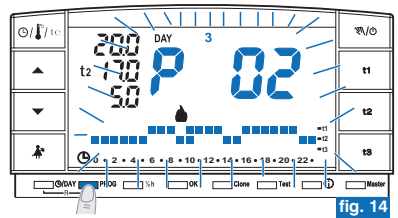

fig. 14
- To change the previously saved settings of program **P 01**, **P 02** or **P 03**, press the **PROG** key to enter into program display, press the **▲▼** keys (or else quickly press **PROG**) until the display shows the program number you want to change (**P 01**, **P 02** or **P 03**) fig. 14, press **OK (or PROG) key for 4 seconds** to enter the editing (example in fig. 15); if the day that is to be modified is not Monday, press **OK** once or more times until the particular day is selected.